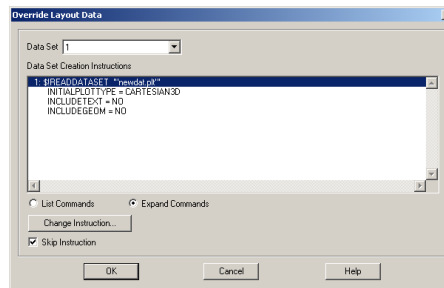

Figure 5-13. The Override Layout Data dialog.
4. The Override Layout Data dialog appears, as shown in Figure 5-13.